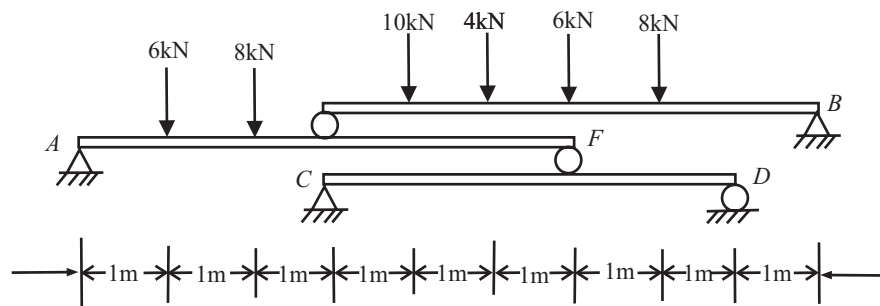

Fig 8.54
Q. 24: Determine the reactions at the support A, B, C, and D for the arrangement of compound beams shown in fig 8.54